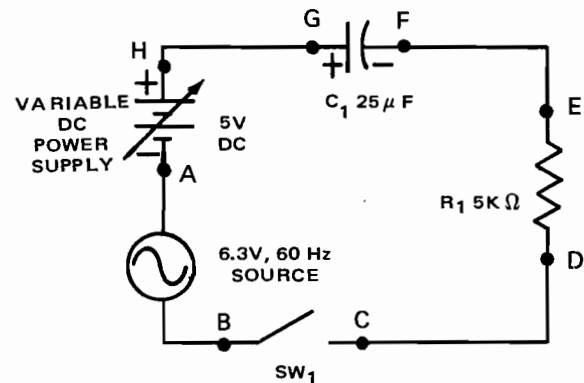
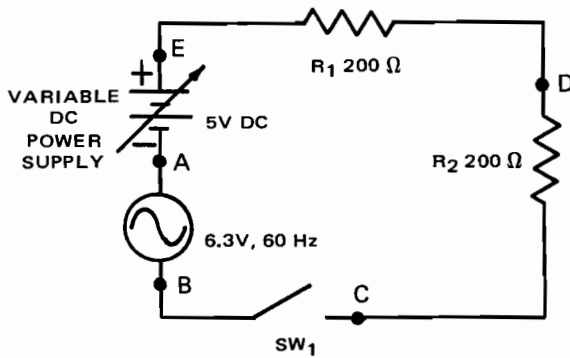

Fig. 11-4-1
Fig. 11-4-2
1. Connect dc filter circuit as in Fig. 11-4-1.
7. Turn off circuit switch and change circuit of Fig. 11-4-1 to conform with Fig. 11-4-2.
1. Why does only ac appear across resistor in circuit in Fig. 11-4-1 when input contains both ac and dc components? _____
2. Modification of Fig. 11-4-2 with a capacitor across R_1 demonstrates what filtering principles? _____
3. The capacitive reactance (X_C) of the modified Fig. 11-4-2 circuit is _____ ohms.
4. As a general design rule, the X_C of a bypass capacitor should be at least 10 times smaller than the resistor it is bypassing. Does this rule apply to the modified circuit which is in Fig. 11-4-2? _____